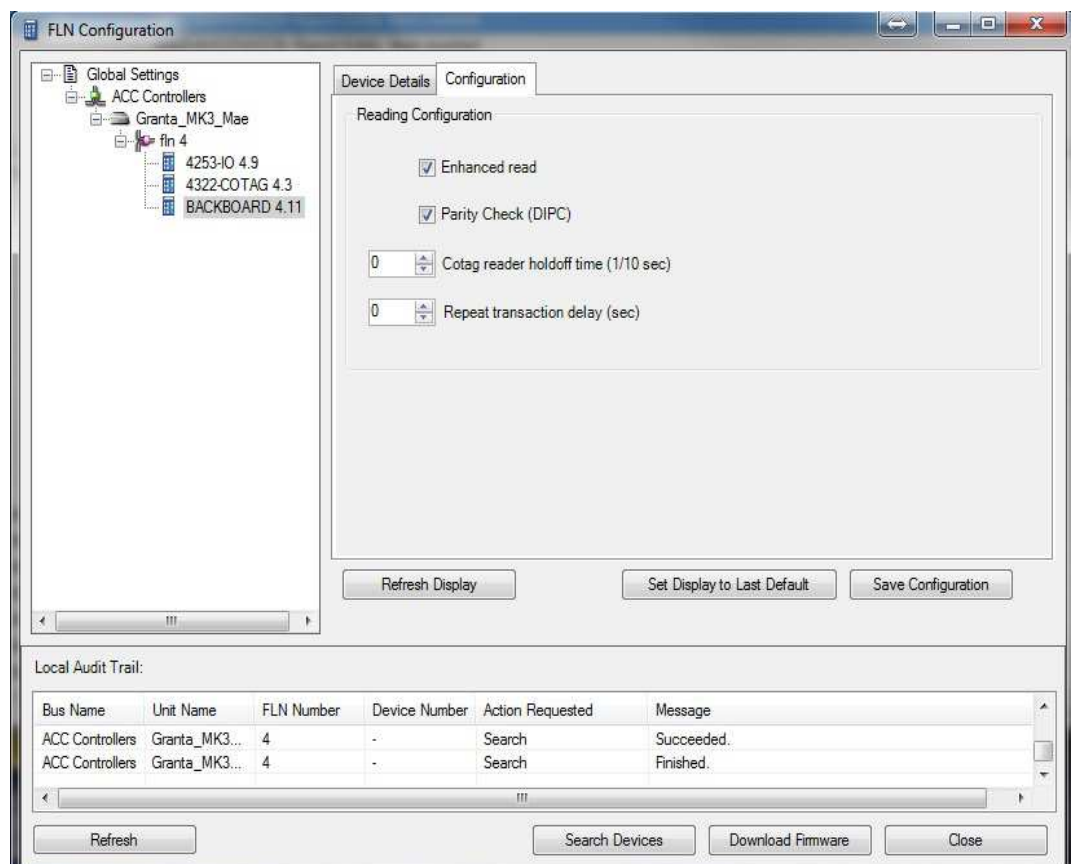

Fig.2. FLN Configuration – Backboard Device
3. Enter the Hold off time into the **Cotag Reader Hold off Time** Field. (See *Fig 2 in section 2.1.4 above*)
3. Enter the delay time into the **Repeat Transaction delay** Field. (See *Fig 2 in section 2.1.4 above*)